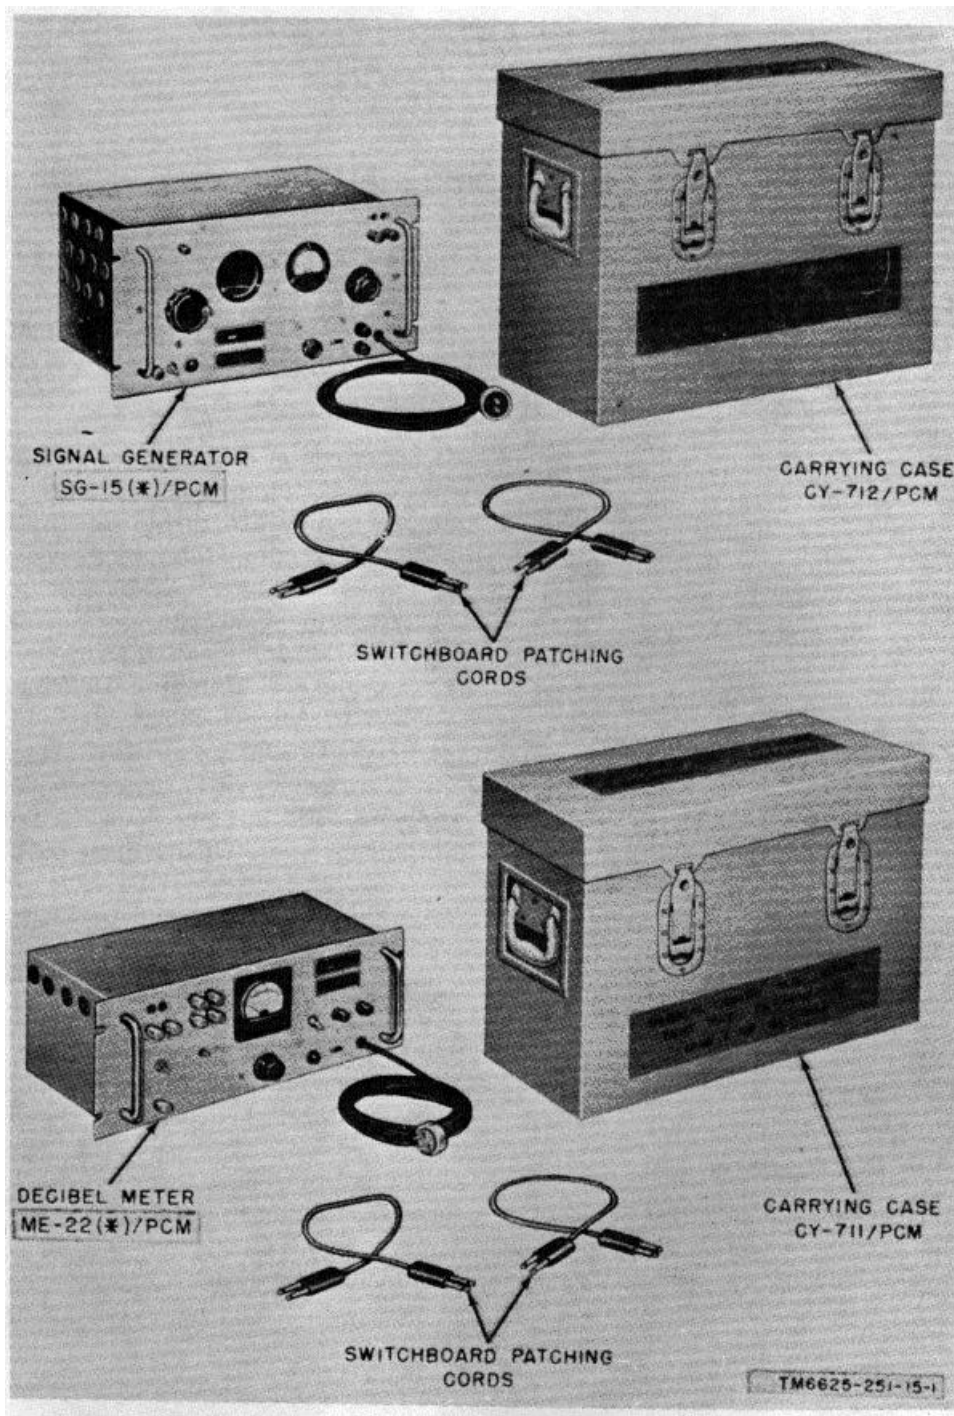

Figure 1-1. Test Set TS-140/PCM less running spares and technical manuals.
a. This manual contains a description of Test Set TS-140/PCM (fig. 1-1), and includes operating instructions, organizational maintenance information, the theory of operation, repair of the equipment, instructions for removing the equipment from service and repacking for shipment or limited storage, and instructions for demolishing the equipment to prevent enemy use.
Test Set TS-140/PCM (fig. 1-1) which consists of Signal Generator SG-15(*)/PCM (*a* below) and Decibel Meter ME-22(*)/PCM (*b* below), is a portable test set designed for making transmission measurements of v-f (voice-frequency) and carrier equipment in the frequency range of 200 cycles through 35 kilocycles. It also is used for testing wire and cable lines to determine their suitability for use with such equipment in communication systems. Gain and loss may be measured directly by Test Set TS-140/PCM since the front panel controls and meters of both the signal generator and the decibel meter indicate power levels in dbm (decibels referred to 1 milliwatt in 600 ohms). Cross talk also may be measured by using the gain and loss measurement technique and making measurements through the entire frequency range of the equipment or wire line under test.
(1) Signal Generator SG-15(*)/PCM (fig. 1-1) is a self-contained unit mounted in a metal case provided with a dust cover. The front panel is slotted at both ends to permit rack mounting on a standard 19-inch rack, and metal handles are provided at either end of the front panel for convenience in carrying the equipment. The unit has a gray enamel finish.
(2) All operating controls and the jack and terminals for external connections are located on the front panel of the signal generator. A meter which indicates the output power of the unit and a circuit protecting 2-ampere fuse mounted in an extractor post holder also are located on the front panel. The cover over the top and rear of the equipment ease and the bottom plate are removable. All parts and assemblies mounted on the chassis and on the back of the front panel can be reached for maintenance purposes when the cover over the top and rear of the equipment and the bottom plate are removed.
b. *Carrying Case CY-712/PCM.* Carrying Case CY-712/PCM (fig. 1-1) is an aluminum case with a smooth, gray enamel finish. The case is used for storing the equipment and for transportation. It is provided with a shockmounted rack for semipermanent installation of the signal generator and a compartment for holding the technical manual. The detachable cover contains clips for storing two switchboard patching cords. Two flush-type handles are provided, one on each end of the case. The cover is fastened by four flush-type spring fasteners.
c. *Switchboard Patching Cords.* Two switchboard patching cords (fig. 1-1) are provided with each signal generator. The cords are 24 inches long, excluding terminations. and are equipped with twin